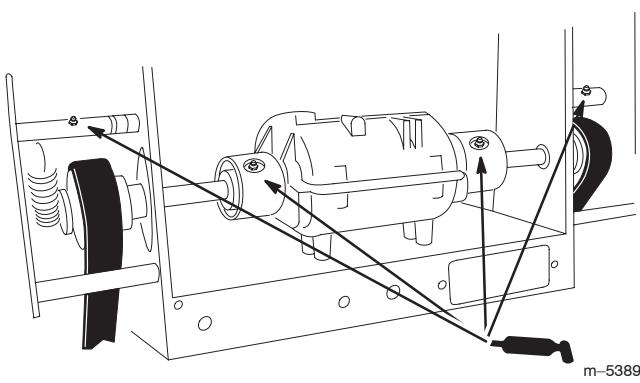

Figure 37
2. Lubricate the transmission couplers after every 100 operating hours and the idler bracket pivots after every 8 operating hours (Fig. 37).